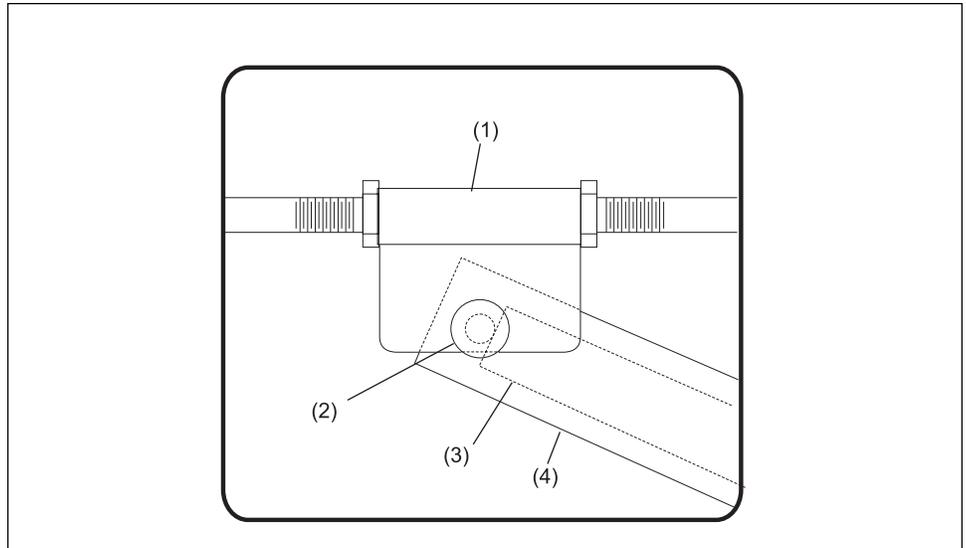

Figure 23. Check For Interference
- h. Disconnect the yoke pin from the center pivot point and the motor sleeve. Refer to *Figure 23*. Visually inspect pin for evidence of wear. If wear is present, the pin was most likely interfering with motor drive screw. Retain all pins and retainers for reinstallation.
- (1) DRIVE YOKE
- (2) DRIVE YOKE PIN
- (3) DRIVESCREW
- (4) SLEEVE